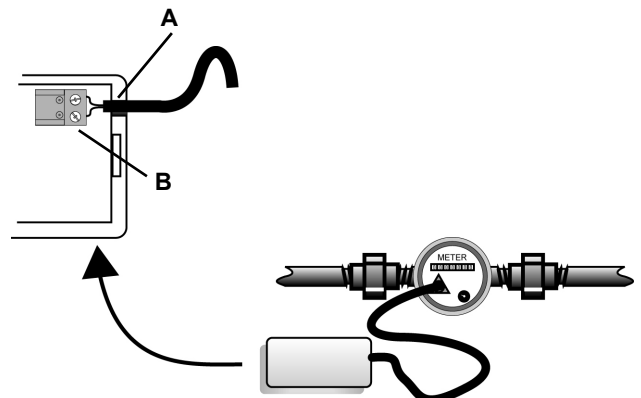

Figure 2 Connect the Transmitter to the Meter
**Note:** Ensure cabling enters the housing through the access wiring through-hole, and replace the housing (Figure 2).